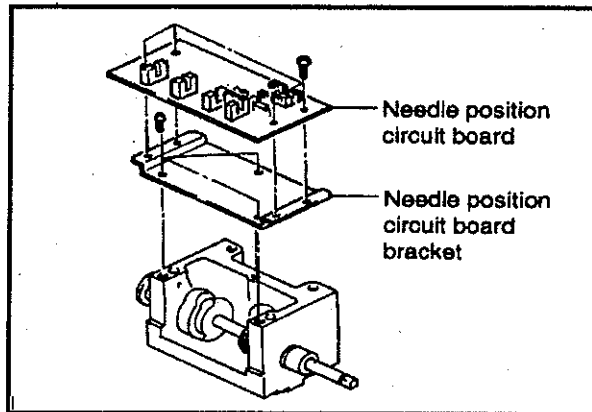

FIG.5
- (7) Remove the needle position circuit board and bracket (Fig.5). (Refer to "4-15 Needle position circuit board" on page 64.)